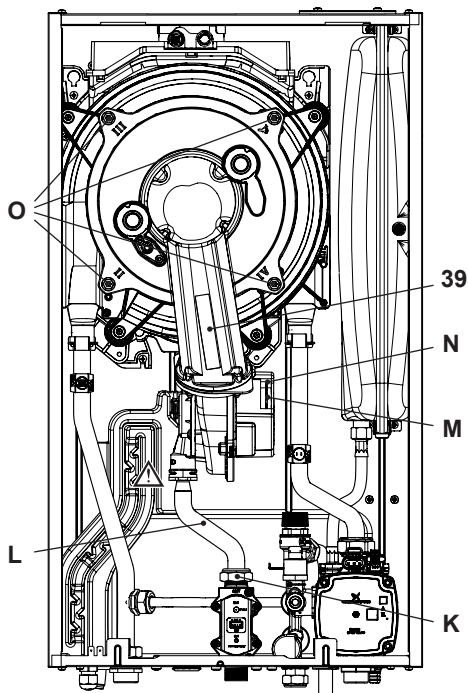

Fig. 10.13
Removing the fan burner unit 39 in Fig. 10.13.
- Disconnect the connector "M" by pulling it downwards (Fig. 10.13).
- Disconnect the fan connector "N" by pulling it downwards (Fig. 10.13).
- Unscrew screws "O" and remove the fan burner unit 39 (Fig. 10.13).